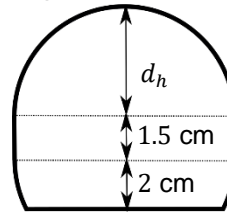

Figure 6 – Top part of the head
1. The top part is shown in Figure 6 and consists of: a hemisphere with diameter $d_h = \frac{\alpha_h}{\pi} L_n$, where $\alpha_h = 1.11$ for **[bh]** and $\alpha_h = 0.72$ for **[sh]**, a cylinder with height of 1.5 cm and diameter $d_c = d_h$ and another hemisphere with diameter d_h which is cut off at 2 cm to mount the bottom part;